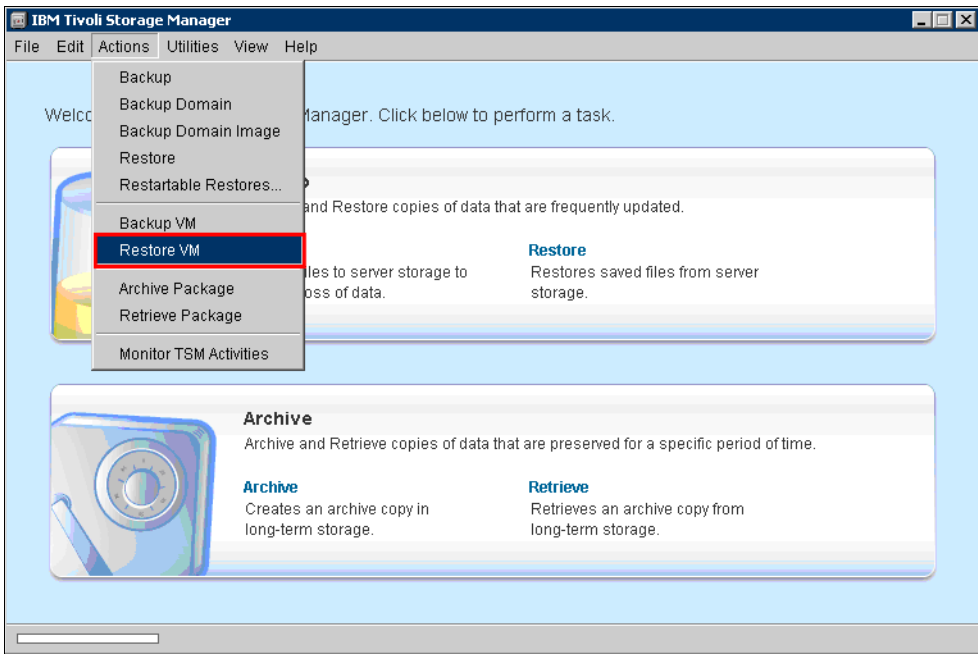

Figure 20-26 Tivoli Storage Manager GUI with Restore VM menu cascade
1. From the Tivoli Storage Manager GUI drop-down menus, click **Actions** → **Restore VM** (Figure 20-26).